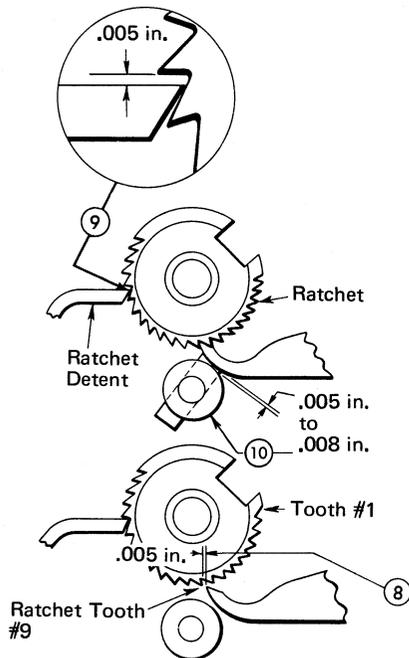

Figure 2-70. Dial Relay Ratchet
8. With the contact wiper and ratchet assembly fully restored, the drive pawl should enter ratchet tooth 9 with .005-inch takeup clearance. Form the wiper assembly stop arm to adjust (Figure 2-70).
9. Form the tip of the count magnet armature to obtain .005-inch overthrow of ratchet. Recheck adjustment 7 (Figure 2-70).
10. Move drive pawl stop to obtain .005-inch to .008-inch clearance between pawl and stop with count magnet armature fully attracted (Figure 2-70).